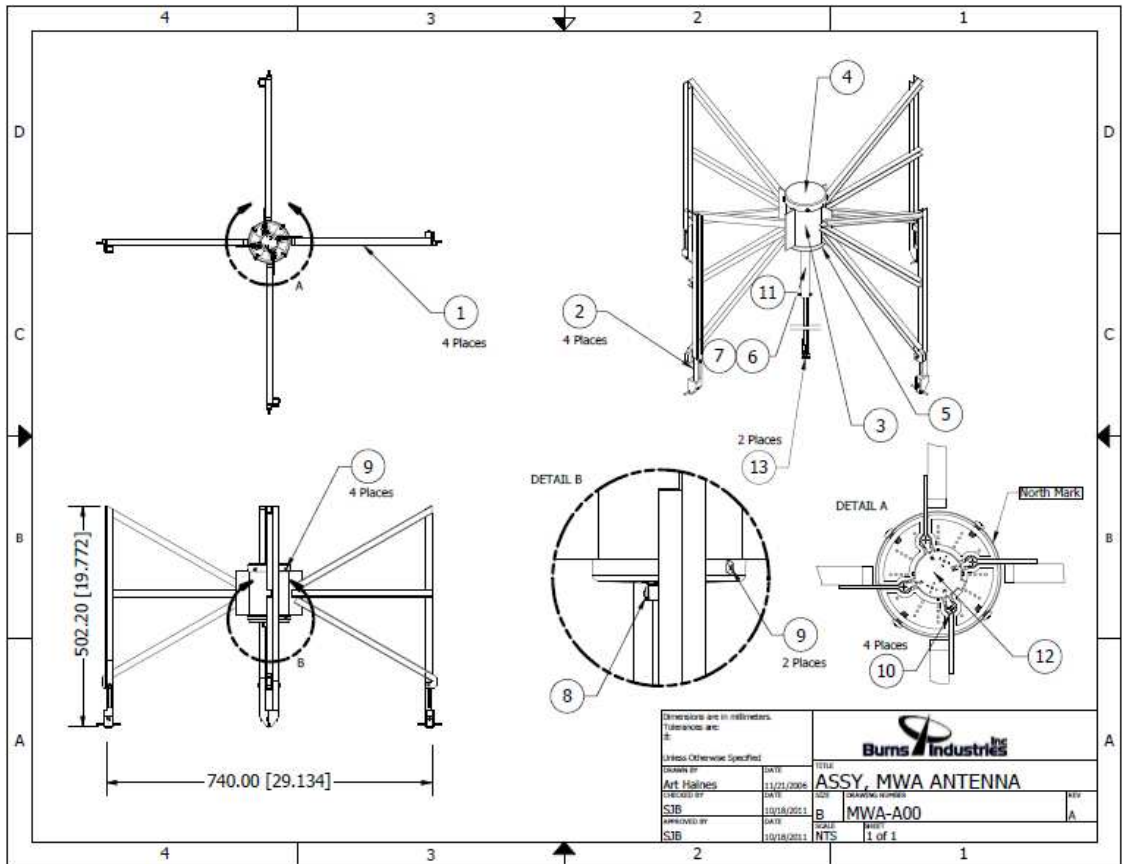

Figure 1 ~ MWA antenna assembly:
B. MWA Antenna Assembly (reference figures 1 to 4)